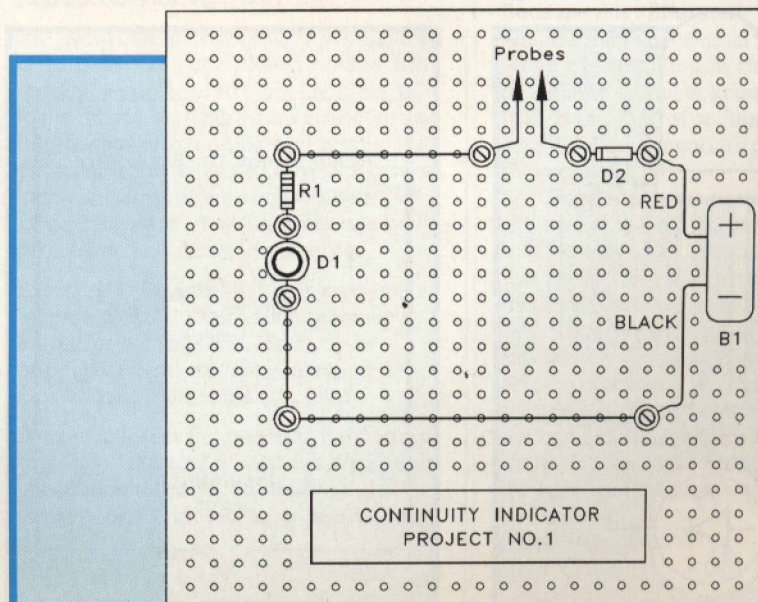

Figure 2. The layout of the components.
1. Cut out the component guide-sheet provided with the kit (which is a full-size copy of Figure 2) and glue it in place on the board. Paper glue or gum should be okay. Do not soak the paper with glue, just a few small 'dabs' will do.